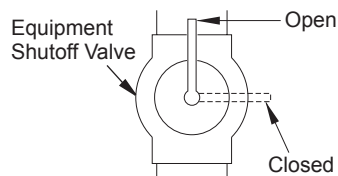

Figure 18 - Equipment Shutoff Valve
1. Close equipment shutoff valve (see Figure 18).
1. Open equipment shutoff valve (see Figure 18, page 13).